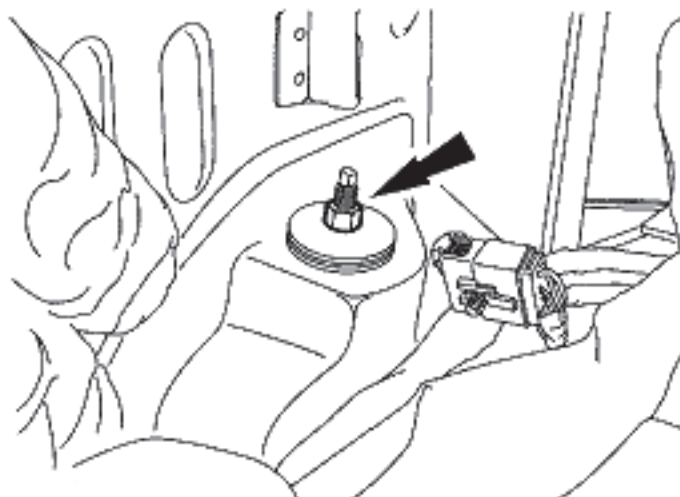

fig. 6
6. Remove the retaining washer/isolator from the shock upper stud mount and remove the shock from the vehicle (Fig. 6).